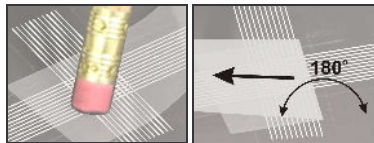

Figure 3. Apply tape and remove at 180°
5. Centre the cut piece of tape over the lattice and smooth into place using a pencil eraser (Figure 3).
6. Remove the tape by pulling in a single smooth action at 180° (Figure 3).